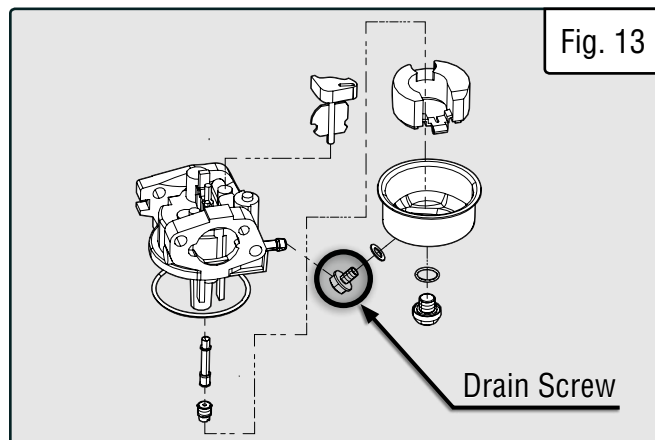

Fig. 13
2. The carburetor can be accessed from the backside of the generator between the engine and the air filter. To drain the carburetor, open up the carburetor drain screw with a Phillips-head screwdriver (not included) and drain out any gasoline that has built up inside. See Fig. 13.